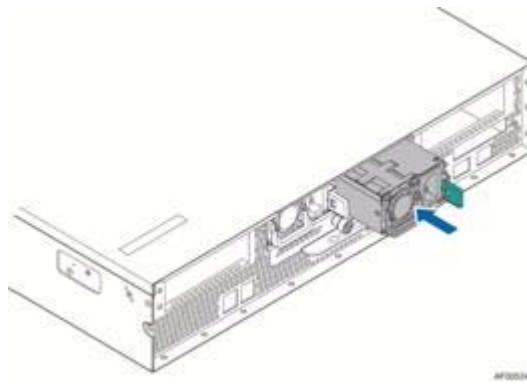

Figure 4-8 Installing a Power Supply Module
1. Align and slide the module into the power supply cage as shown in Figure 4-8.